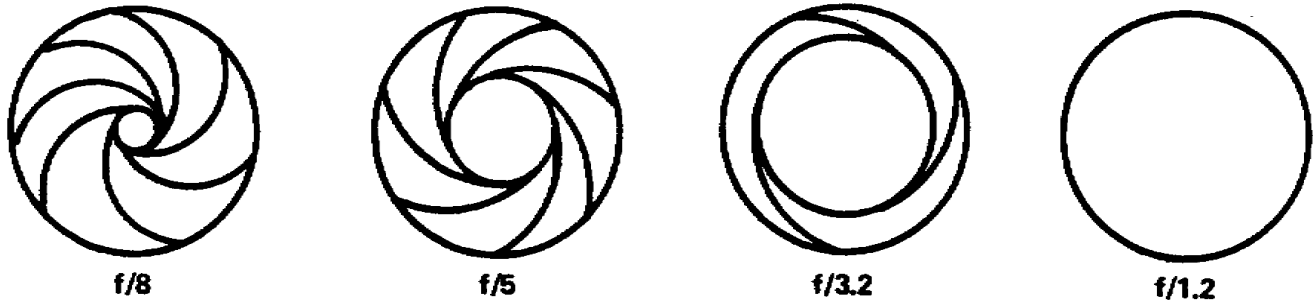

Figure 2-2. F-stop and lens aperture
c. The quality of a lens is based on how much light it lets through the lens. A lens that lets in a great amount of light is called a fast lens, thus a slow lens lets in a relatively small amount of light (fig 2-2).